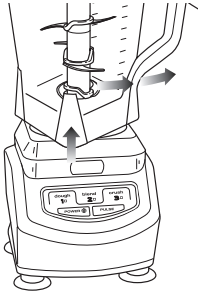

Fig. 7
- 8 To remove the container, press the power button (⏻) to turn the appliance Off. Wait for the attachment to stop moving before removing. (Fig. 7)